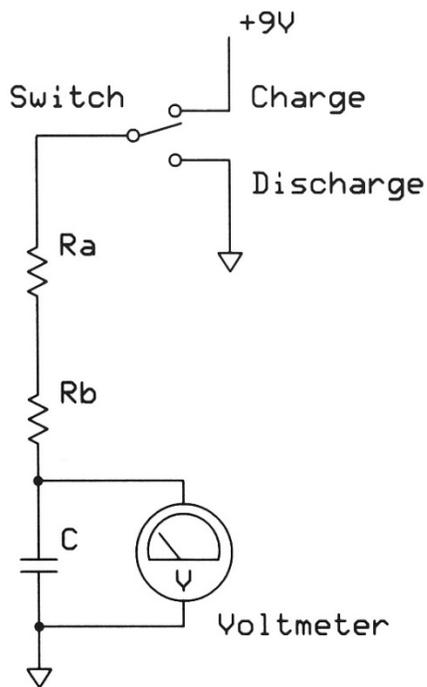

Figure 2.1.
This timer IC relies on an external capacitor and two resistors in series, which forms an resistor-capacitor (RC) network, or circuit, as shown in **Figure 2.1**. When someone closes the switch to connect the +9V power supply to the RC circuit, current flows through resistors R_a and R_b to charge the capacitor, C . At the instant you supply power to this circuit, the capacitor acts like a short circuit to ground. As a result, the voltage across the capacitor measures 0 volts to start. (Assume this capacitor does not already hold any charge.)